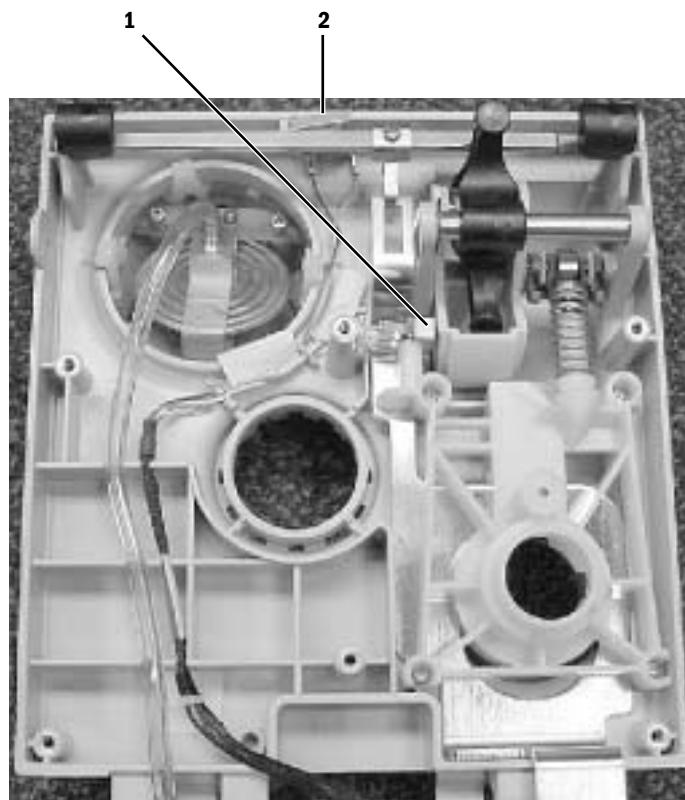

Figure 2-26 • Control panel switches
Figure 2-26 shows the Bag/Vent switch (1) and the control panel switch (2).